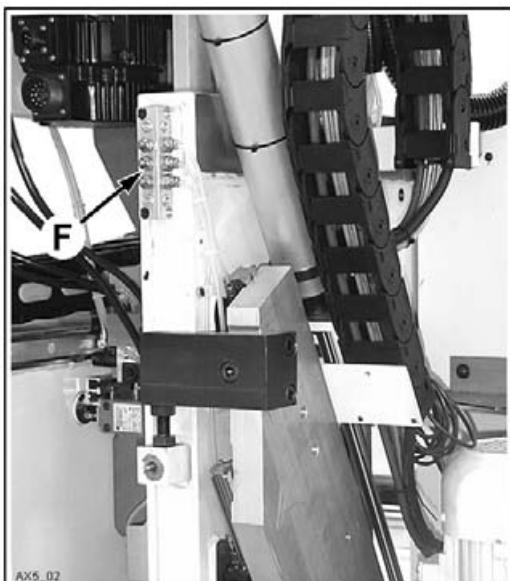

Fig. 5.9
Every 8 hours (daily maintenance):**Lubricating the recirculating ball screws and sliding blocks:****N.B.: For the distributors in fig. 5.9 - 5.10, this is not required if the centralised lubricating device described in section 5.4.1 is fitted.**
- Inject approximately 1cm³ of grease (Type "B" - See table in Sec. 5.6) into each grease nipple F (Fig. 5.9 / 5.10 / 5.10a). Clean away any excess grease.